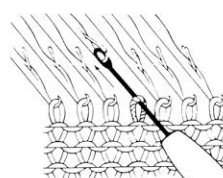

Fig.50-3
- c) Push the needle back until the stitch slips onto the transfer tool. (Fig.50-3)